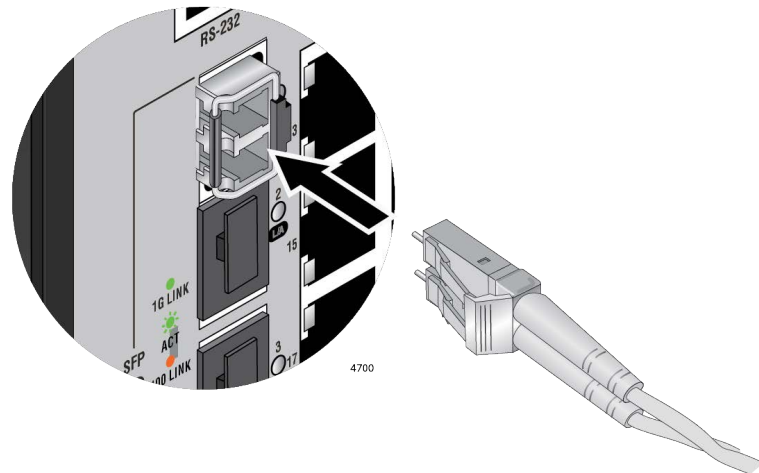

Figure 39. Connecting a Fiber Optic Cable to an SFP Transceiver
6. Connect the fiber optic cable to the transceiver. The connector on the cable should fit snugly into the port, and the tab should lock the connector into place. Refer to Figure 39 on page 95.